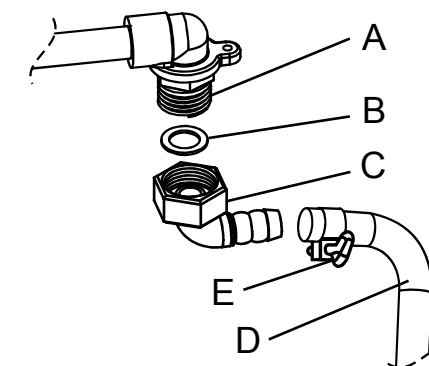

Fig 5
Gas Connection (Fig. 5)
- Connection using a flexible hose (For LPG only). In this case, it is necessary to insert the accessory and the O-Ring as shown in Fig. 5. In this case, you must prevent the pipe from coming into contact with moving parts of the kitchen unit being inserted (for example, a drawer) and prevent access to any spaces which might become obstructed.